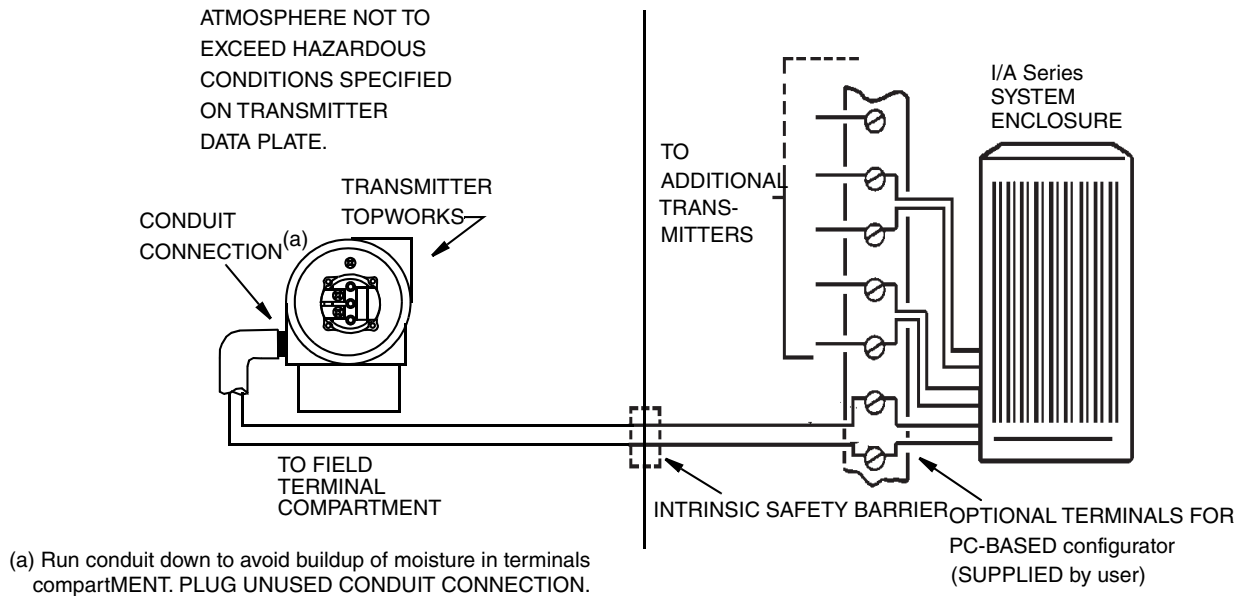

Figure 12. Typical Transmitter Wiring to an I/A Series System
2. Run signal wires (0.50 mm² or 20 AWG, typical) through one of the transmitter conduit connections as shown in Figure 12. Use twisted pair to protect the digital output and/or remote communications from electrical noise. Screened (shielded) cable may be required in some locations.